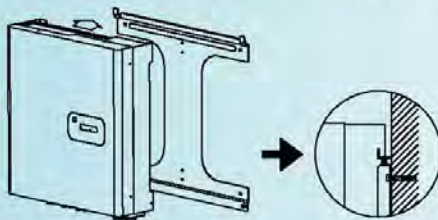

Fig. 7
- Hang the inverter and ensure that it is correctly positioned on its four mounting points (Fig. 7).